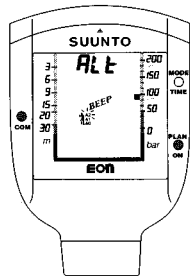

Fig. 4.13 ALTI-TUDE/PERSONAL ADJUSTMENT SETTING, step 3
3. Connect again the ON/PLAN and COM contacts until the blinking altitude/personal adjustment mode starts to scroll. Release your fingers when the desired mode is blinking (Fig. 4.13). Wait at least two seconds but no more than four seconds before next step.